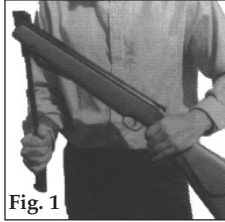

Fig. 1
1. Point the air rifle in a safe direction. Keeping your fingers away from the trigger, grasp the stock behind the trigger guard. Next, position your other hand on the barrel just behind the front sight and break the barrel by smoothly rotating it downwards until the cocking action is completed. **Do not use excessive force or speed.** (Fig. 1)